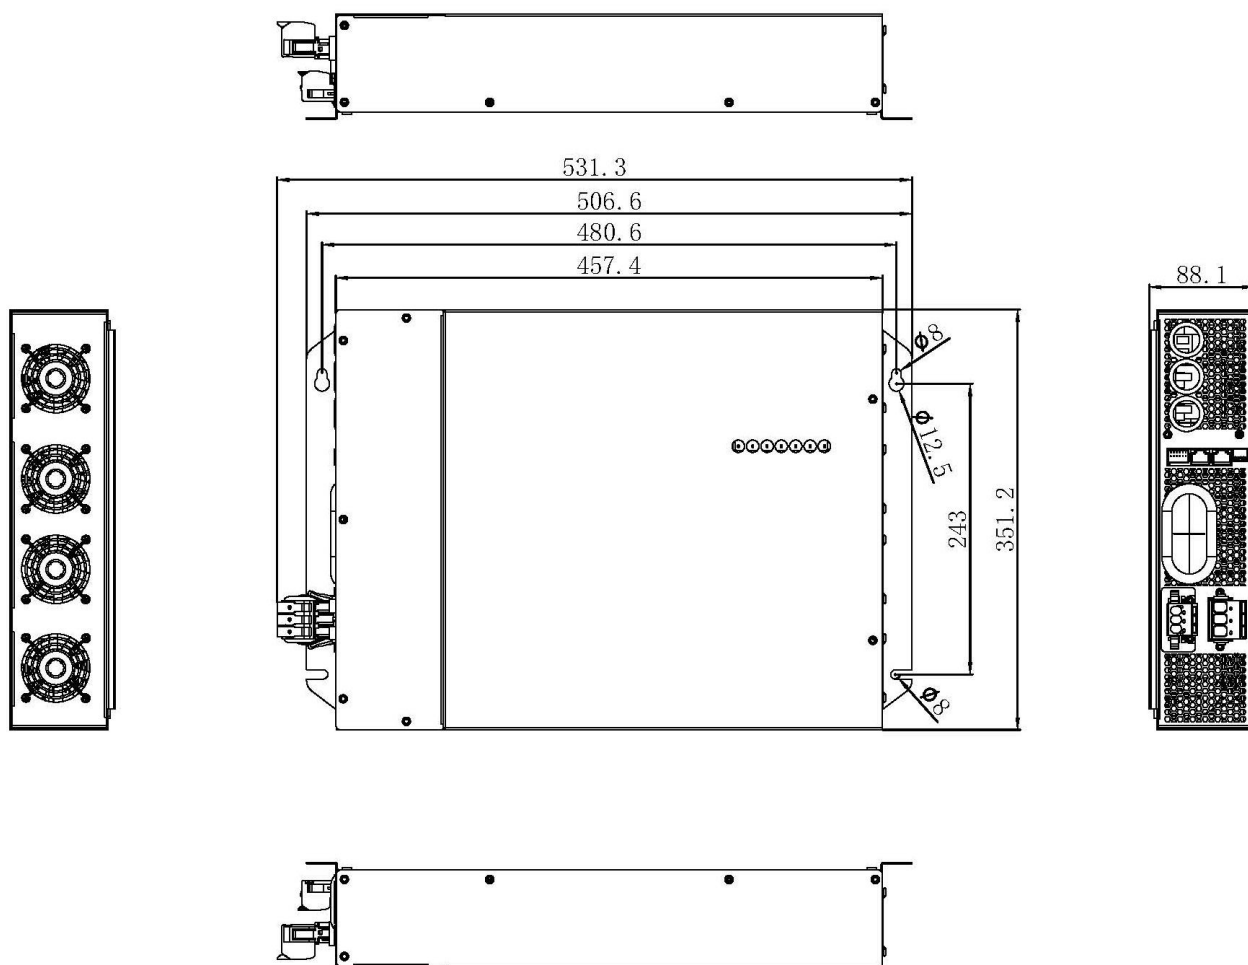

Figure 2-4 Dimension of PGPG6.0S/PG8.0S (Unit: mm)
- PG inverter adopts a forced air cooling method for heat dissipation. To ensure good heat dissipation, sufficient wiring space is required, and it is recommended to have a certain number of heat dissipation holes in the installation space to ensure air convection. Please determine the installation space and hole positions of the host according to Figure 2-4. Leave 200mm or more space in front and behind the host, and 50mm or more space on both sides of the host to ensure heat dissipation, as shown in Figure 3-1.